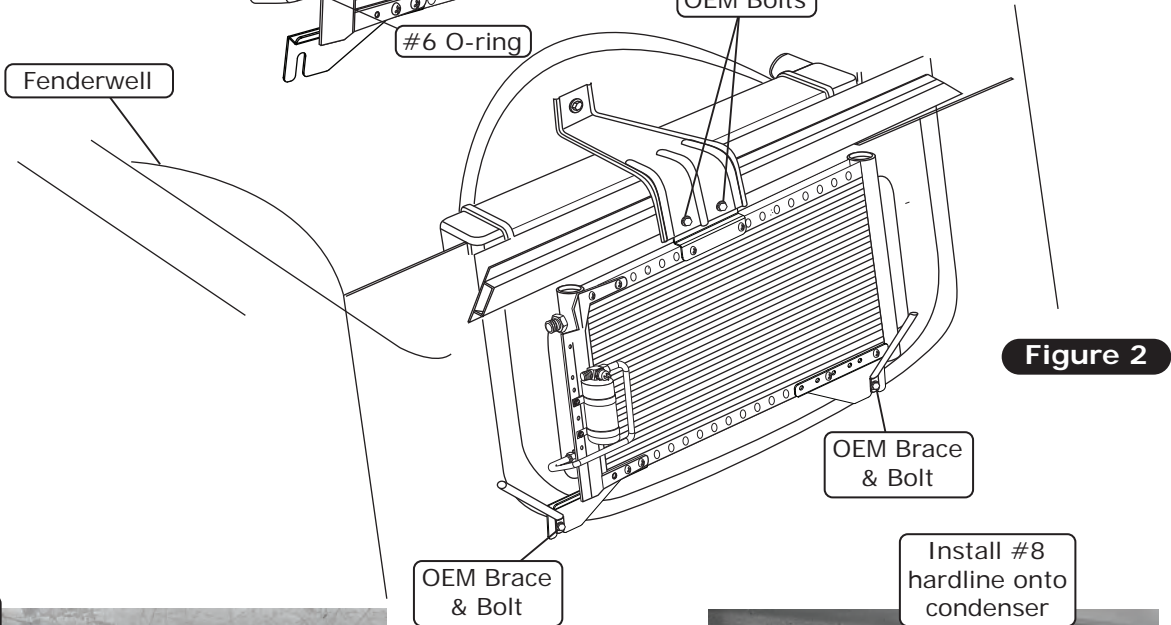

Figure 2
2. Install the condenser in front of the core support using the OEM bolts as shown in Figure 2, below.